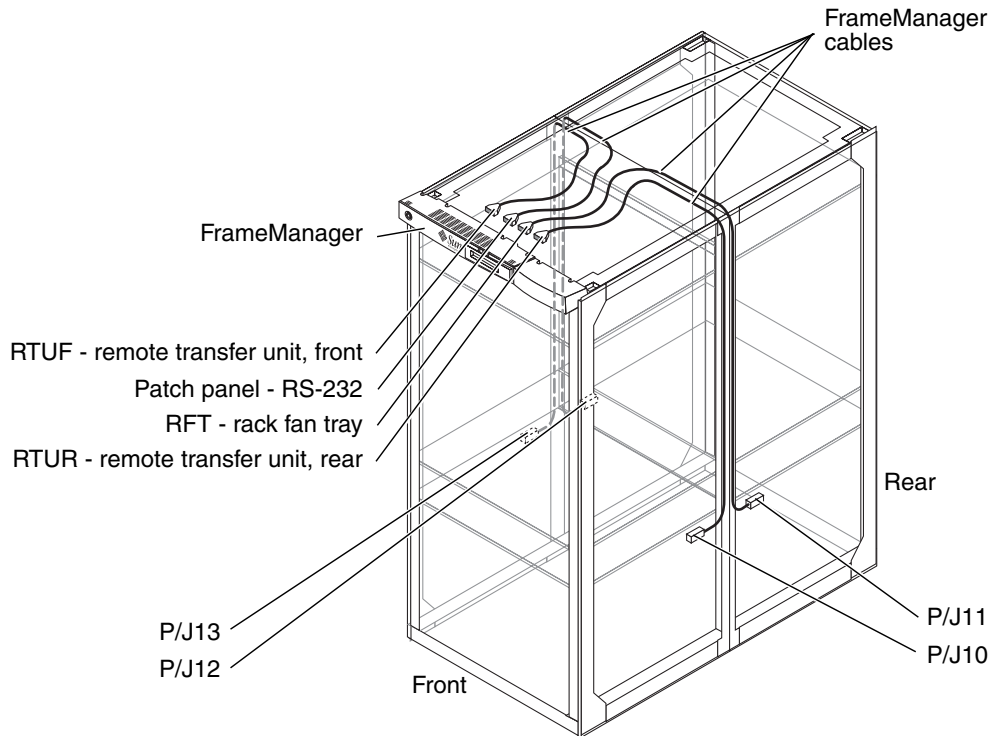

FIGURE 16-13 FrameManager Cable
2. Remove the three (3) M4x12 panhead screws holding the FrameManager to the chassis.
3. Disconnect the four (4) cables from the rear of the FrameManager.
5. At each panel section, remove the four (4) M4x12 panhead screws holding the four (4) cable clamps that secure the FrameManager cables to the chassis.
6. From the front and rear of the system, remove the twenty-two (22) M4x30 panhead screws retaining the air plenum cover, and remove both the plenum cover and the honeycomb EMI filter panel.
7. Reach inside the air plenum and release the eight (8) (two per connector) male jackscrews holding the internal cable connectors to the internal chassis side panels.
8. To remove the four (4) right-angle connectors, release the two (2) female jack screws (two per connector) using a 3/16-inch nut driver.
9. Remove the four (4) external right-angle connectors (P/J10, P/J11, P/J12, and P/J13) from the chassis side panels (FIGURE 16-13).